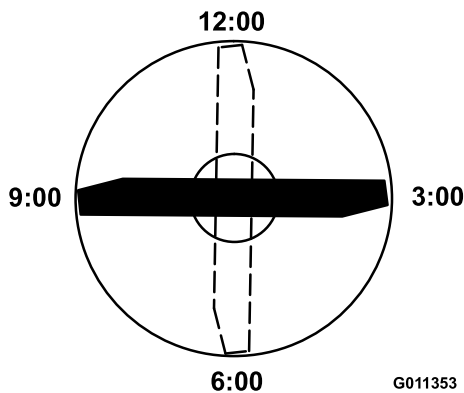

Figure 71
3. Position the cutting edge of the marked end of the blade at the 12 o'clock position (straight ahead in the direction of mowing) and measure the height from the table to the cutting edge of the blade (Figure 71).
4. Rotate the marked end of the blade to the 3 o'clock and 9 o'clock positions and measure the heights (Figure 71).